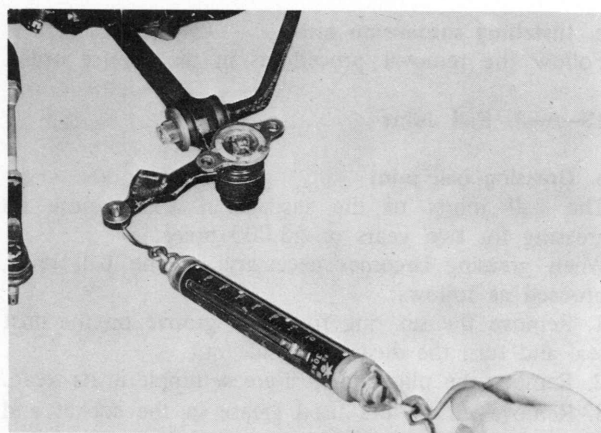

Fig. 13-45 Checking revolving torque
5. Refer to Par. 13-A-3 and check the ball joint revolving torque with a pull scale, as shown in Fig. 13-45. The reading of the scale is **8 ~ 14 kg (17.6 ~ 30.9 lb)**.